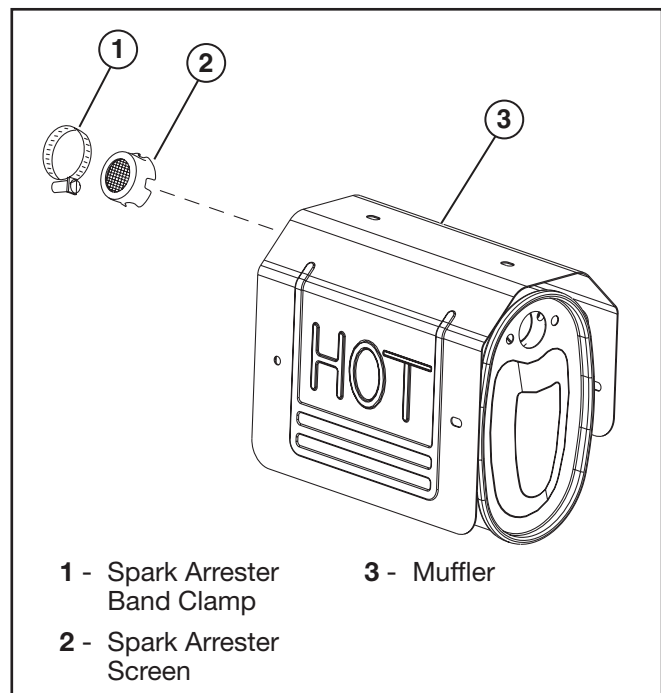

Figure 50 – Spark Arrester Assembly
3. Using a flat head screwdriver, loosen the spark arrester band clamp by turning the adjusting screw anti-clockwise (see Figure 50).